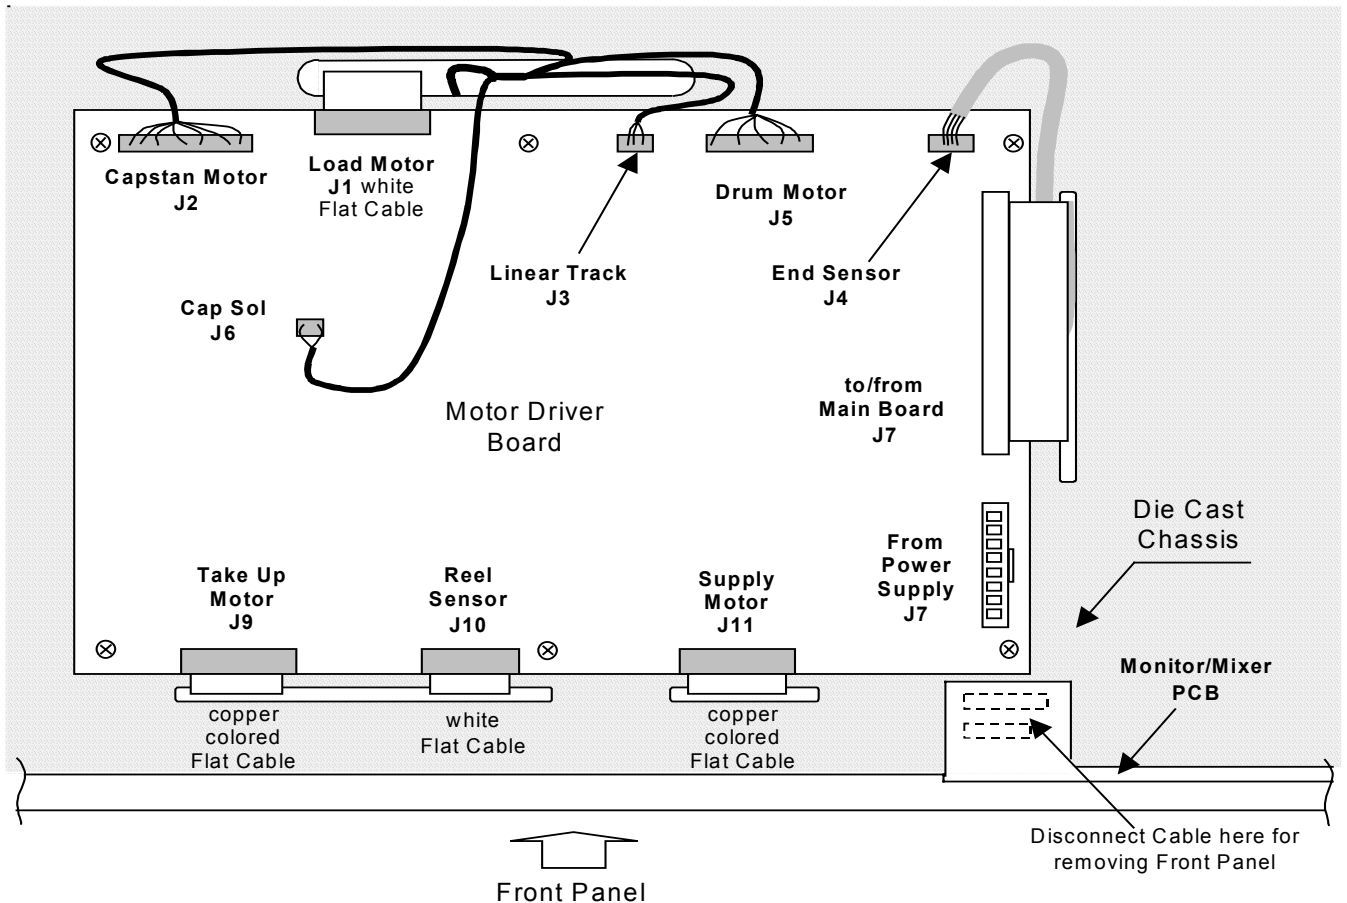

Fig. 2 – Cable and connector locations, bottom view
- Unplug the following cables from the Motor Driver Board to the tape transport (bottom side, see fig. 2):